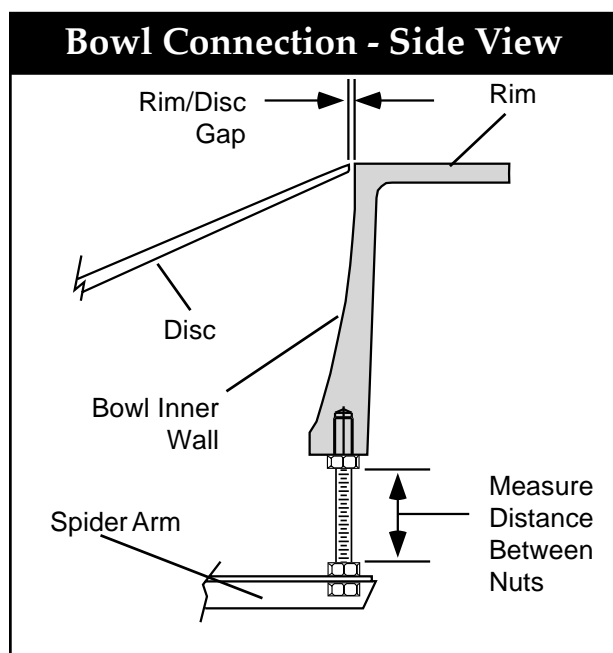

Figure 5-2. Side View - Bowl Connection
► If machining enlarges the inner wall of the bowl, you may need to replace the disc with a larger one (custom-sized) from your direct supplier. If you do not obtain a larger disc, the gap between the disc and the inner wall of the bowl may pinch or snag product (see Figure 5-2).
(where the threaded rod connects the two parts - see Figure 5-2). Loosen and remove the bottom nut on the spider arm (on each of the eight (8) arms) and remove the bowl - pulling it up and away from the feeder.